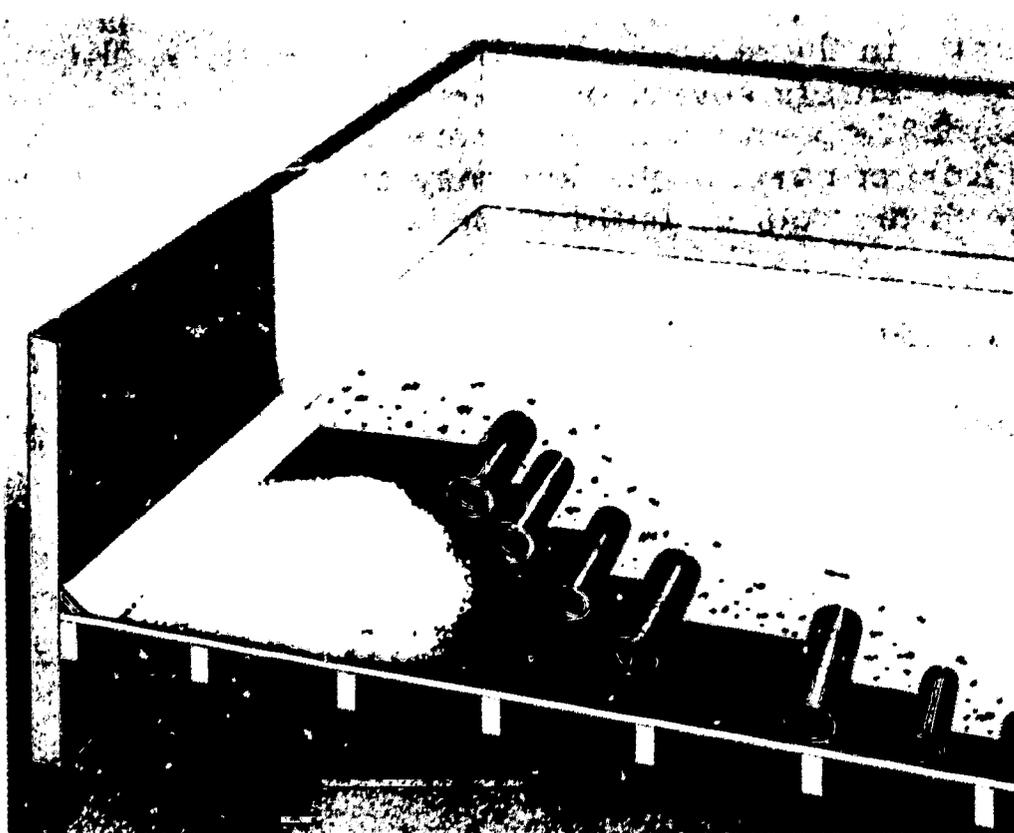

Fig. A-2. Straight 3-ply roof assembly
- Proceed up the incline, lapping each sheet 24-2/3 in. leaving 11-1/3 in. exposed (Fig. A-2).